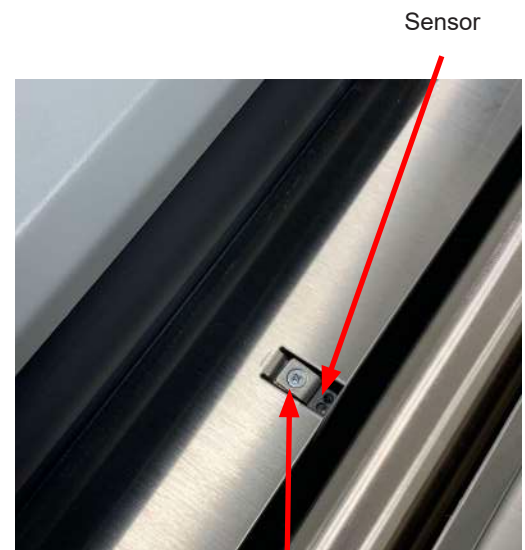

Fig. 53
5. Remove the screw from the sensor mount (Fig. 53).